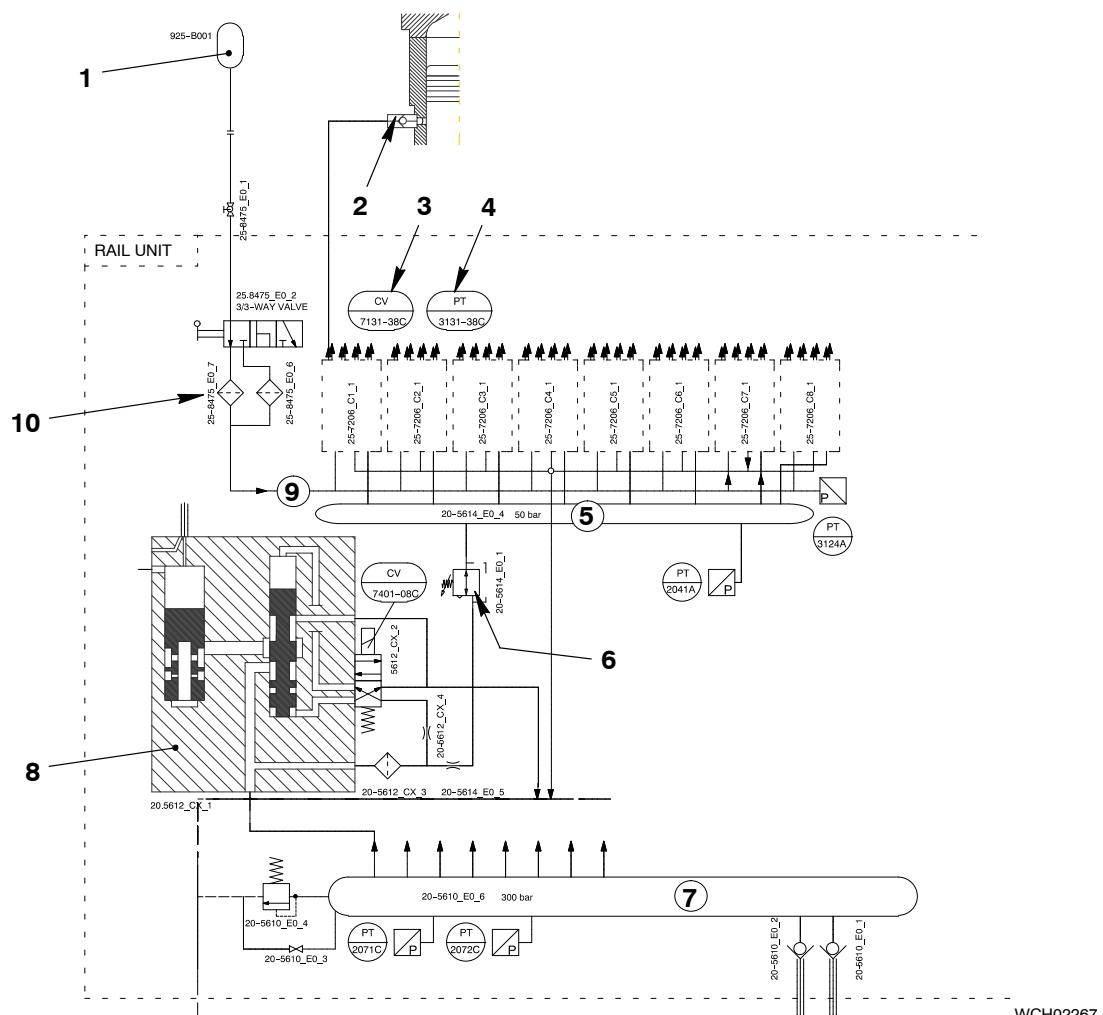
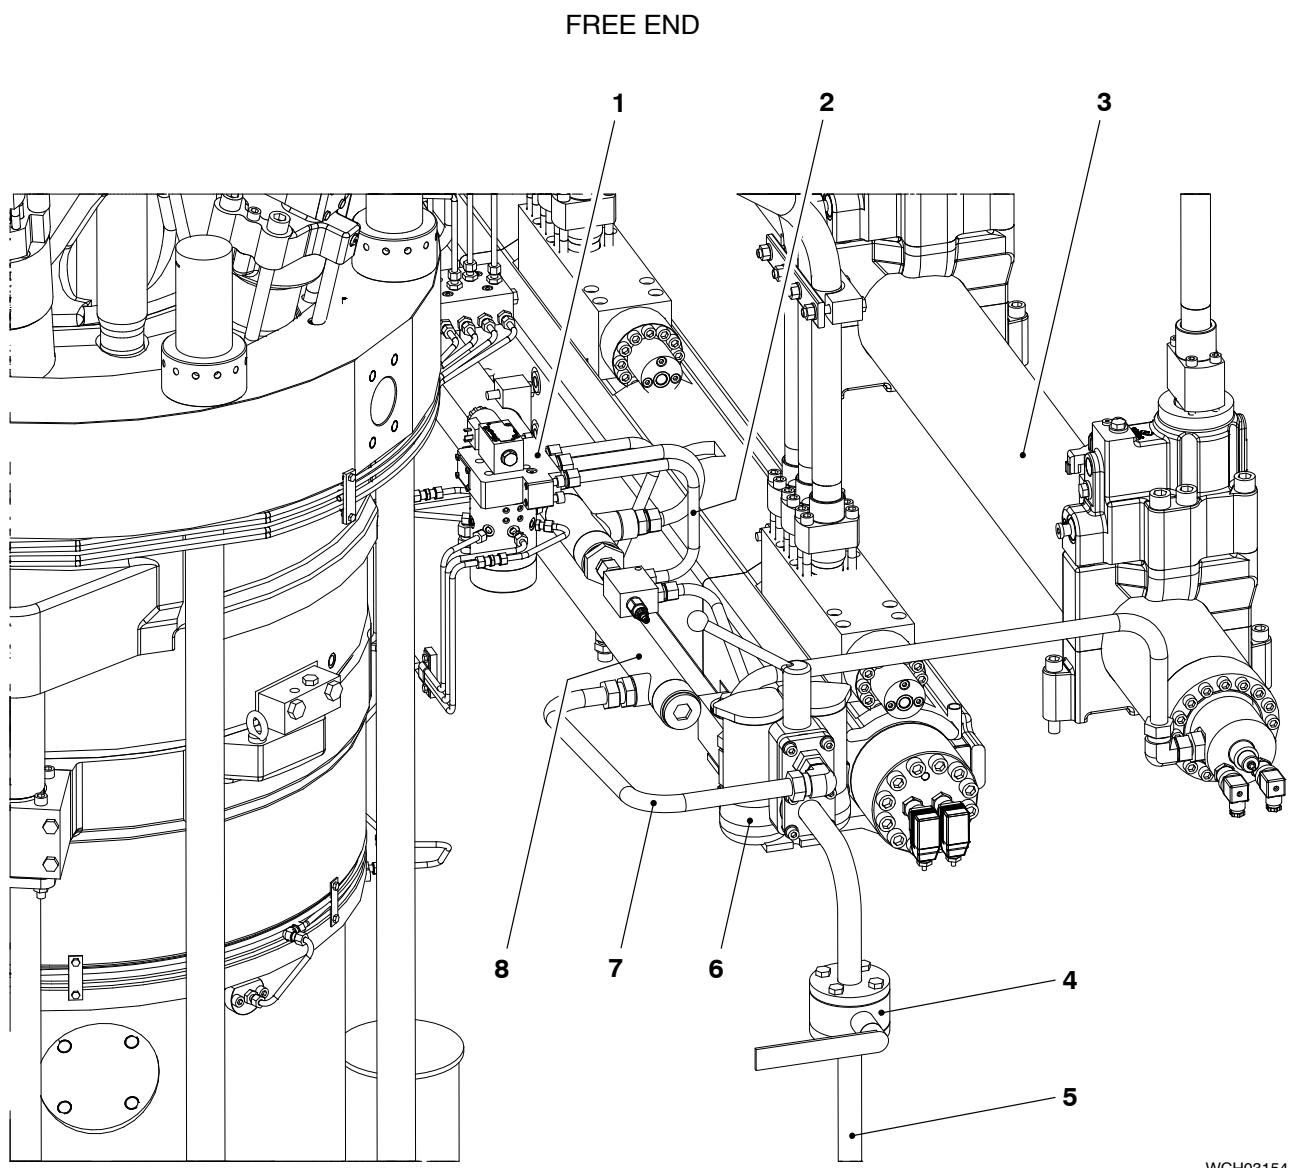
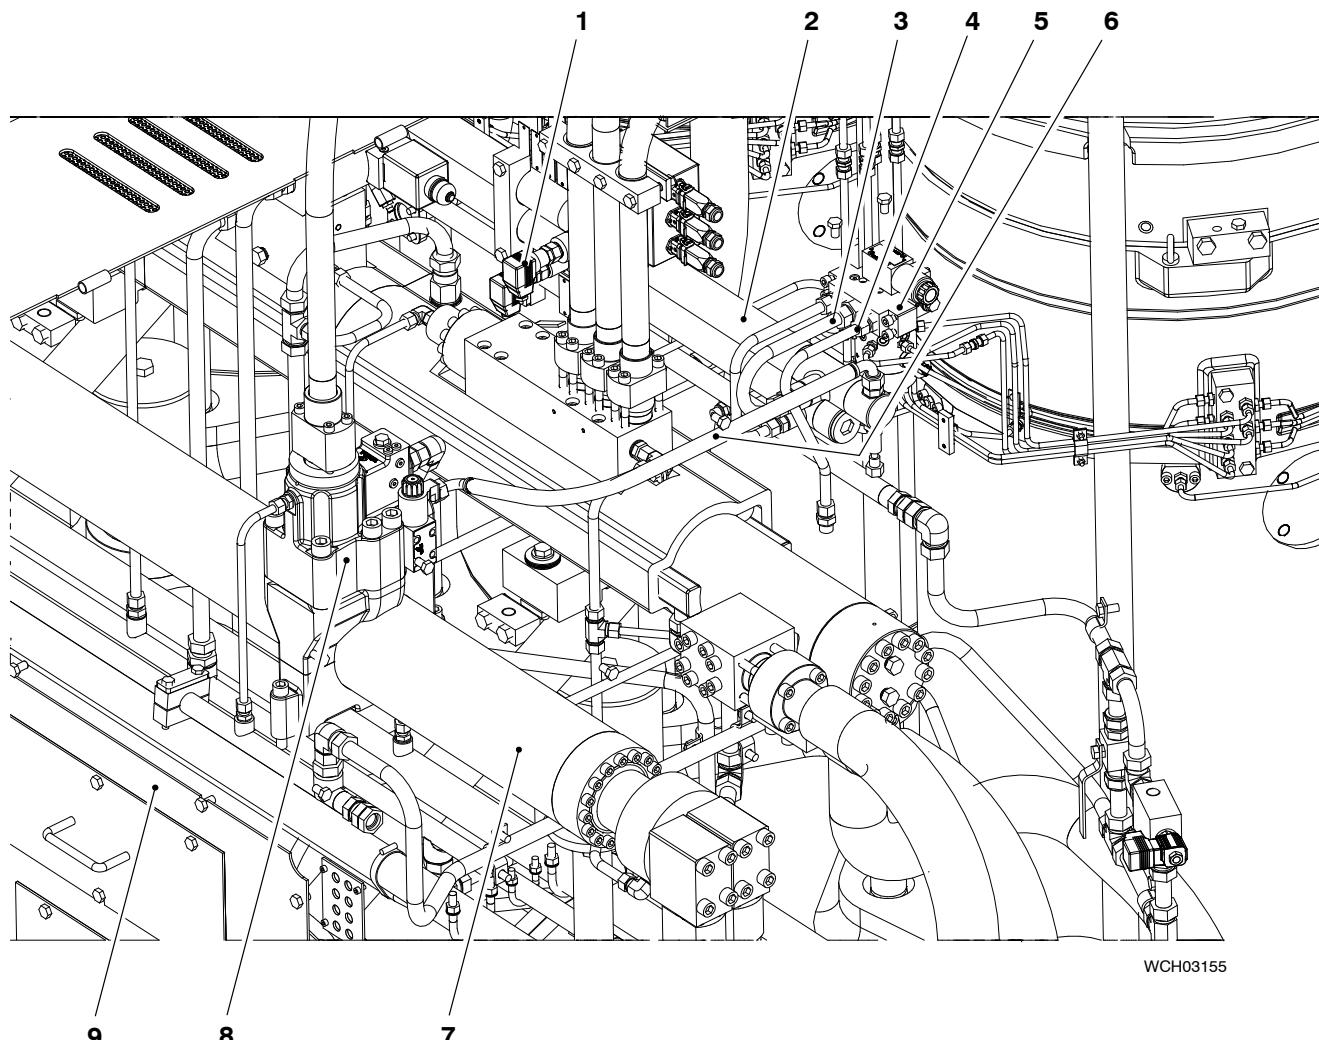

Fig. 1: Schematic Diagram – Cylinder Lubrication System
Fig. 2: Cylinder Lubricating Oil Supply
Fig. 3: Cylinder Lubricating System – Servo Oil Supply
The cylinder lube oil tank (1, Fig. 1) for the cylinder lubricating oil is installed at a specified height above the engine. This lets static pressure move the oil down through the duplex filter (4).
The diagram Fig. 1 shows the complete system, which has the components that follow:
Cylinder lubricating oil from the tanks (1, Fig. 1) flows through the lubricating oil inlet pipe (5, see Fig. 3) to the duplex filter (6). The filtered cylinder lubricating oil flows through the lubricating oil inlet pipe (7) into the lubricating oil supply pipe (8) to the cylinder lubricating pumps (1).
The pressure transmitter PT3124A (see Fig. 1) monitors the pressure in the lubricating oil supply pipe (8, Fig. 2).
Servo oil from the servo oil rail (7, Fig. 3) flows through the exhaust valve control unit (8) to the servo oil inlet pipe (6). Servo oil then flows through the servo oil supply pipe (2) and the servo oil inlet (3) into the cylinder lubricating pumps (5). The servo oil operates the cylinder lubricating pumps (5). For more data see paragraph 5.
Each cylinder has a self-contained cylinder lubricating pump (5, Fig. 2) installed on a support in the rail unit (2, Fig. 3). All of the cylinder lubricating pumps are connected to supply pipes in the rail unit. Servo oil flows into a collector pipe installed below the rail unit.